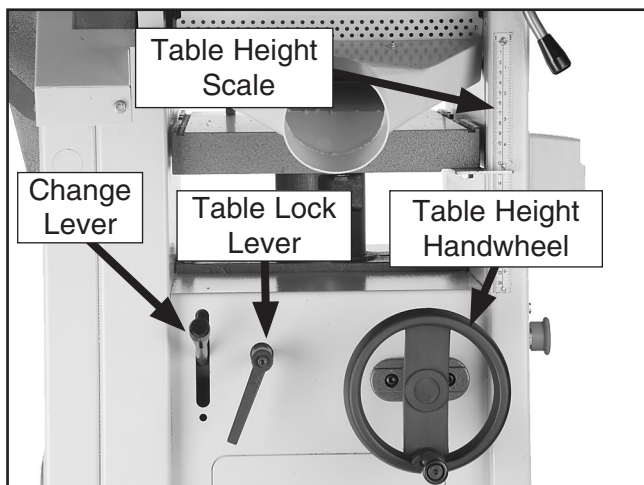

Figure 22. Planer table control locations.
Table Height Handwheel: To move the planer table, rotate the table height handwheel (**Figure 22**).
- Flip the change lever (**Figure 22**) up.